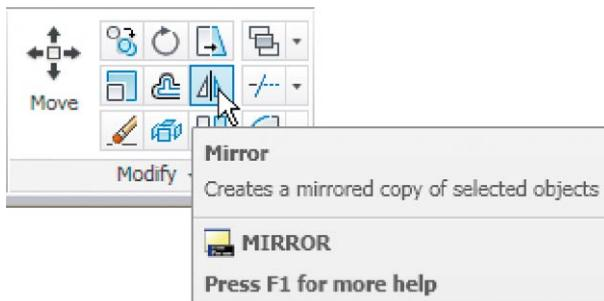

Fig. 5.8 The **Mirror** tool from the **Home/Modify** panel
2. Call the **Mirror** tool – *left-click* on its tool icon in the **Home/Modify** panel (Fig. 5.8) or from the **Modify** drop-down menu, or *enter mi* or **mirror** at the command line. The command line shows: